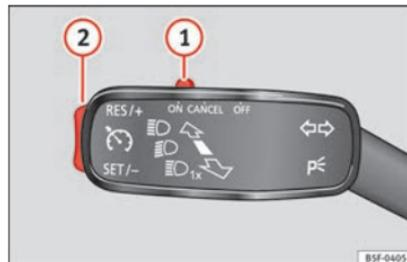

Fig. 47 On the left of the steering column: switches and controls for operating the CCS
- Switching on the CCS: Move switch »» **Fig. 47** (1) to **ON**. The system is on. If no speed has been programmed, the system will not control it.
- Activating the CCS: Press button »» **Fig. 47** (2) in the **SET/-** area. The current speed is memorised and controlled.
- Temporarily switching off the CCS: Move switch »» **Fig. 47** (1) to **CANCEL** or push the brake. The cruise control system is switched off temporarily.
- Reactivating the CCS: Press button »» **Fig. 47** (2) in **RES/+**. The memorised speed is saved and controlled again.
- Increasing stored speed during CCS regulation: press button (2) in **RES/+**. The vehicle accelerates until the new stored speed.
- Reducing stored speed during CCS regulation: press button (2) in **SET/-** to lower the speed by 1 km/h (1 mph). Speed is reduced until reaching the new stored speed.
- Switching off the CCS: Move switch »» **Fig. 47** (1) to **OFF**. The system is disconnected and the memorised speed is deleted.